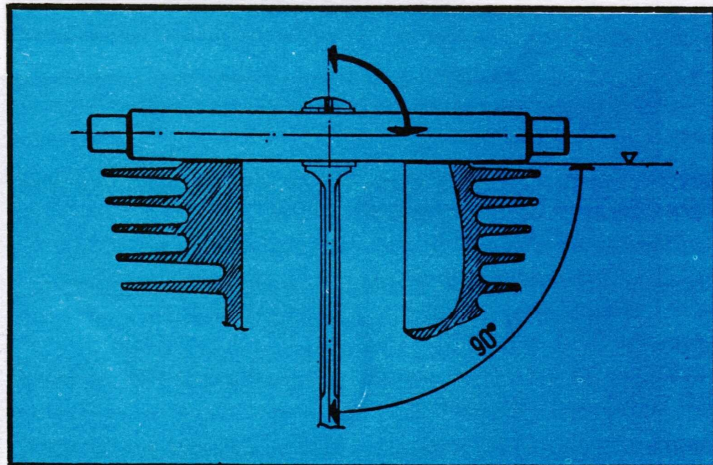

Fig 25 - Alignment of the connecting rod
- b) check the connecting rod alignment with the fixture No. 06 (fig. 25)